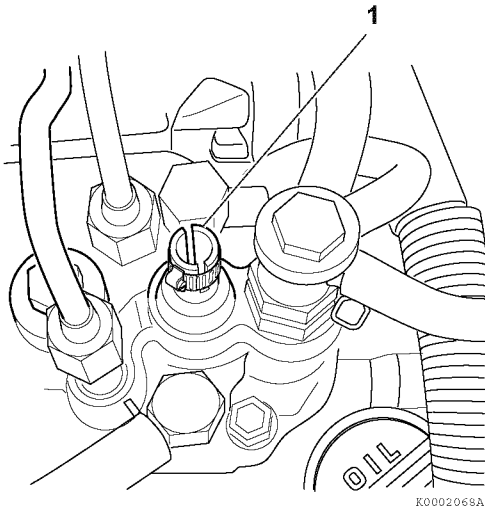
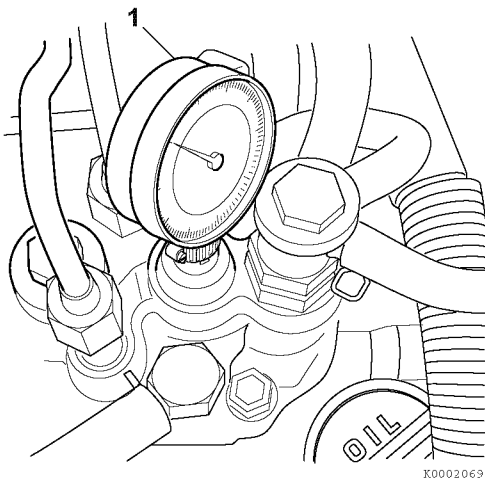

Figure 7-35
Figure 7-36
Note: Use the YANMAR Part No. 158090-51831 M14 adapter for the MP2 fuel injection pumps and YANMAR Part No. 23000-013000 plunger adapter clamp (Figure 7-35, (1)).
5. Install a dial indicator (**Figure 7-36, (1)**), Mitutoyo No. 2050SB or equivalent, with a 30 mm extension, YANMAR Part No. 158090-51870 or Mitutoyo No. 303613, into the adapter. Secure with the YANMAR Part No. 23000-013000 plunger adapter clamp (**Figure 7-35, (1)**) at approximately the mid-point of its travel.